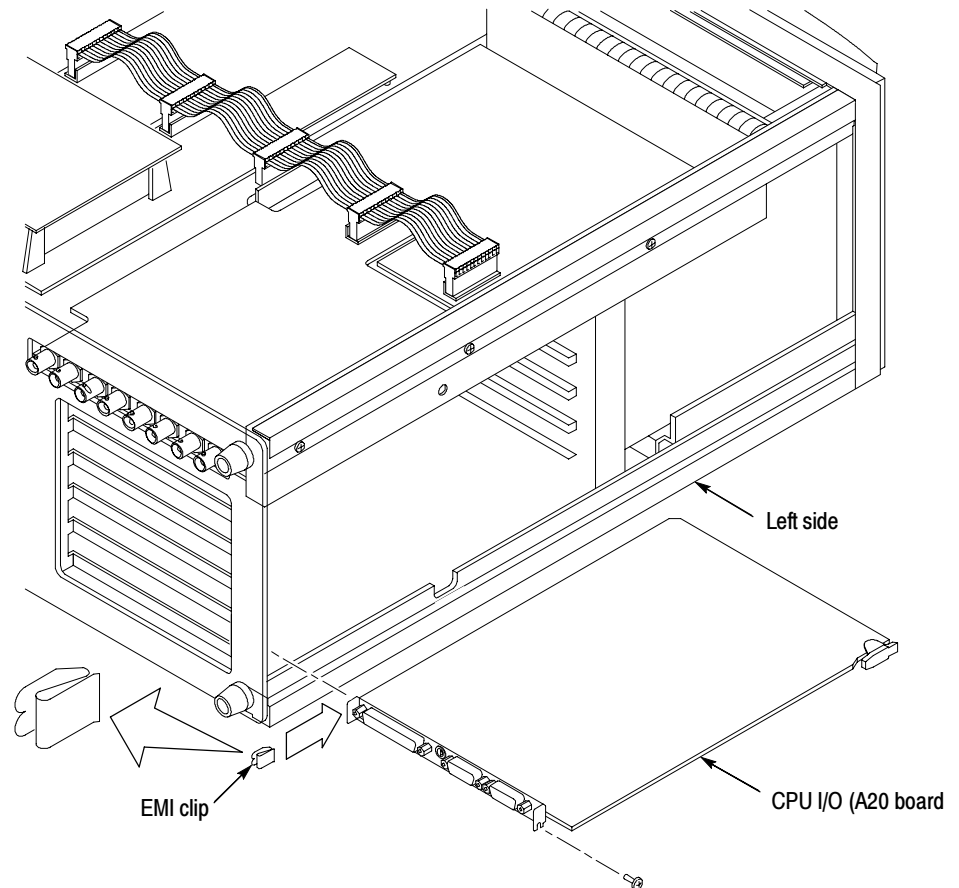

Figure 8: Location of the EMI clip on the CPU I/O board
1. Position the measurement set so that the left side faces you (see Figure 8).
4. Attach the EMI clip to the rear of the CPU I/O circuit board (A20) as shown in Figure 8.